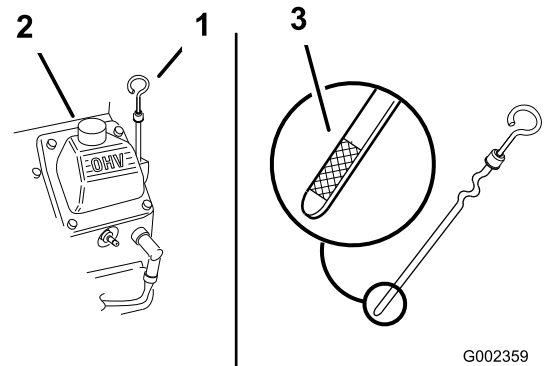

Figure 45
2. Clean around the oil dipstick (Figure 45) so dirt cannot fall into the filler hole and damage the engine.
3. Remove the dipstick, wipe it clean, and install until it is fully seated (Figure 45).
The oil level should be between the “F” full and “L” low marks on the dipstick (Figure 45).
5. If the oil level is below the “L” low mark, remove the filler tube cap (Figure 45) and add the specified oil until the level reaches the “F” full mark on the dipstick.